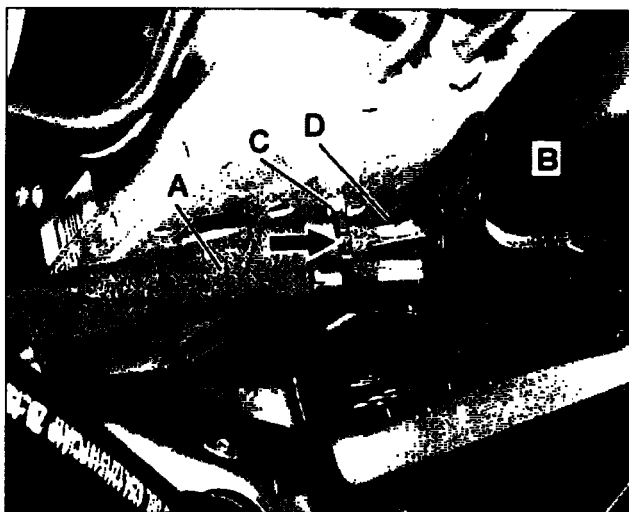

Figure 12
14. Secure the SBC wiring harness (A, Figure 12) (**excluding** the ground wiring harness) to the SBC connector cover harness receptacle (D) using a new cable tie (arrow).
- Ensure that the SBC wiring harness (A) is properly routed so that it is free of tension in the SBC connector housing.
- The cable tie "buckle" (C) **must be located outside of the connector cover harness receptacle (D)** as depicted.